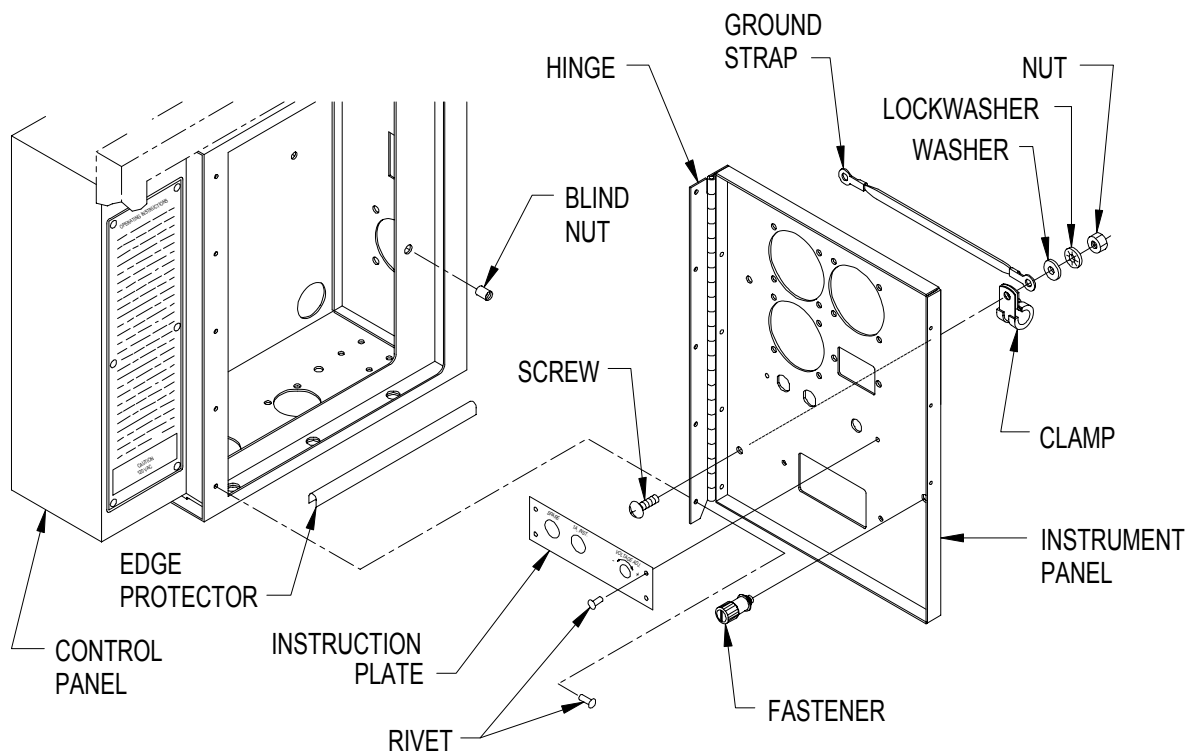

Figure 4-22. Instrument Panel
- (1) Shut down generator set.
- (2) Release instrument panel by turning fastener, open instrument panel slowly.
- (3) Remove nut (Figure 4-22), lockwasher, washer, and screw securing clamp and ground strap to instrument panel.
- (4) If necessary, remove clamp from electrical harness and ground strap from lug terminal board mounting screw.
- (5) Remove gauge protective cover. Then tag and disconnect electrical leads from HERTZ frequency meter (MEP-531 only), VOLTS meter, %LOAD meter, HOURS meter, VOLTAGE ADJ. potentiometer, GFCI receptacle (MEP-531 only), and INST. fuseholder.
- (6) Remove rivets and instrument panel from control panel.
- (7) If necessary, remove fastener from instrument panel and blind nut from control panel.
- (8) If necessary, remove edge protector and adhesive residue from control panel.
- (9) If necessary, remove instrument cover, refer to paragraph 4.22.b.
(1) If removed, install instruction plate, refer to paragraph 4.21.b.
(2) If removed, install INST. fuseholders, GFCI receptacle (MEP-531A only), VOLTAGE ADJ. potentiometer, HOURS meter, %LOAD meter, VOLTS meter, and HERTZ frequency meter (MEP-531A only), refer to corresponding paragraphs.
(3) If removed, install instrument cover, refer to paragraph 4.22.d.
(4) If removed, install edge protector (Figure 4-22) on control panel with contact adhesive (Item 2, Appendix E).
(5) If removed, install blind nut in control panel and fastener in instrument panel.
(6) If removed, install hinge on instrument panel with new rivets.
(7) Install instrument panel on control panel with new rivets.
(8) If removed, install ground strap on lug terminal board mounting screw and position clamp on electrical harness.
(9) Secure ground strap and clamp to instrument panel with screw, washer, lockwasher, and nut.
(10) Connect electrical leads to HERTZ frequency meter (MEP-531 only), VOLTS meter, %LOAD meter, HOURS meter, VOLTAGE ADJ. potentiometer, GFCI receptacle (MEP-531 only), and INST. fuseholder. Remove tags. Then install gauge protective cover.
(11) Close and secure instrument panel.